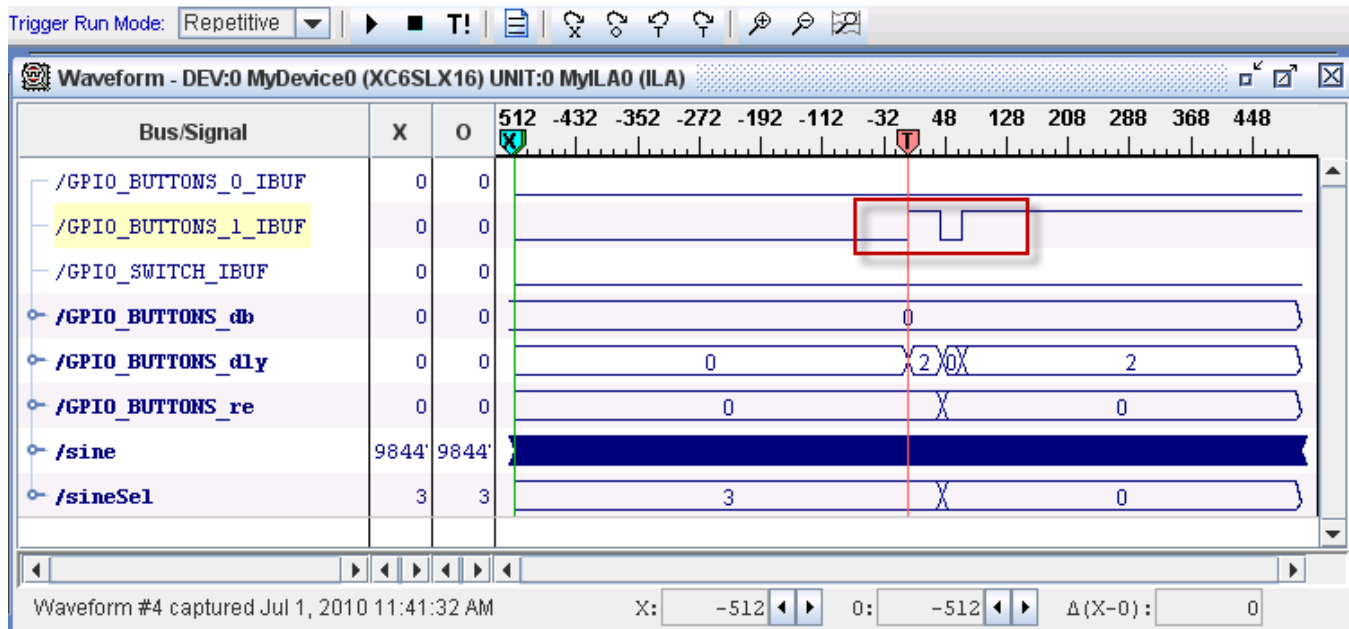

Figure 9: GPIO Buttons\_1\_re Signal Glitch
7. On the board, press the *Sine Wave Sequencer* button until you see multiple transitions on the `GPIO_BUTTONS_1_IBUF` signal (this could take 20 or more tries). This is a visualization of the glitch that is occurring on the input. An example of the glitch is shown in Figure 9.